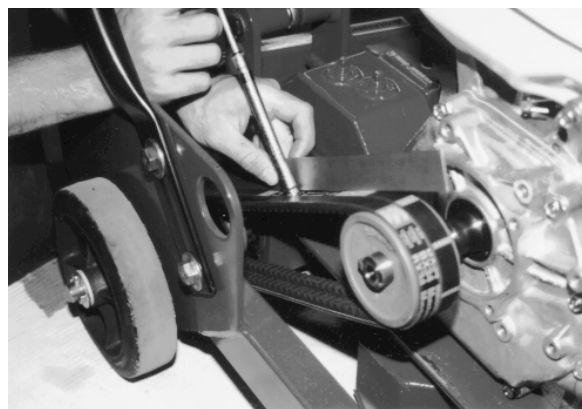

FIGURE 39
b) Check belt tension with the spring scale or belt tension tool midway between the engine/electric motor and arbor shaft pulleys. Belt deflection should measure approximately .20 inch at 4 to 5-1/2 pounds force. FIGURE 39.